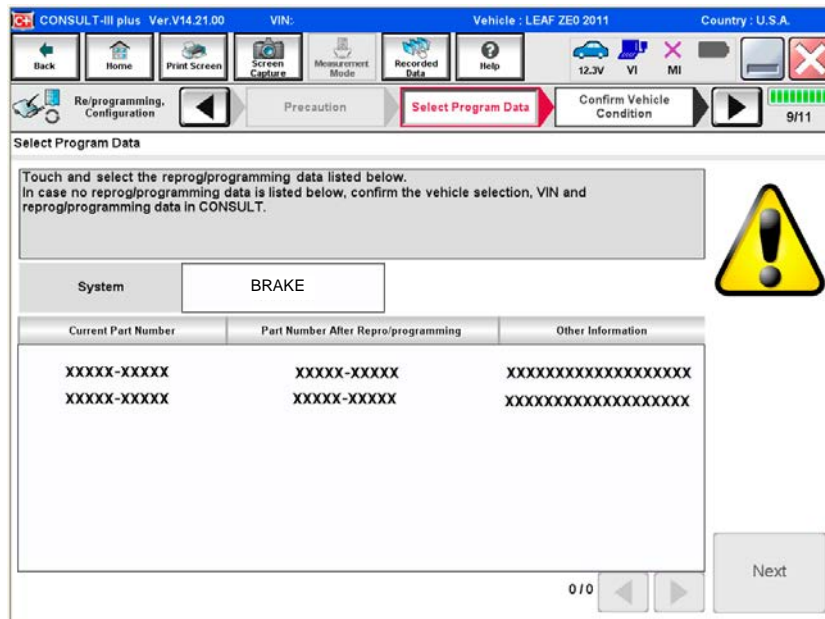

Figure 11
- In this case, the screen in Figure 11 will display.